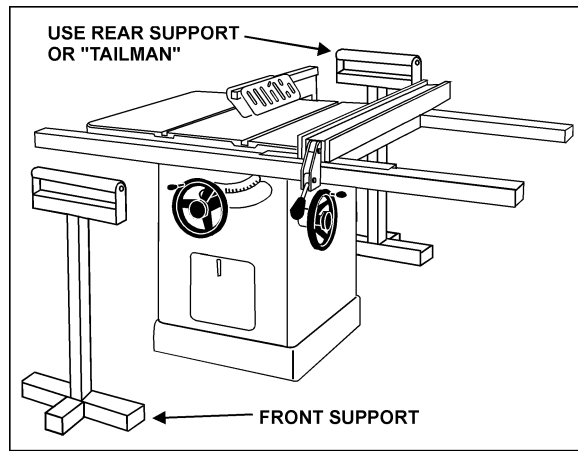

Figure 29
8. When ripping long boards, use a support at the front of the table, such as a roller stand, and a support or "tailman" at the rear as shown in Figure 29.